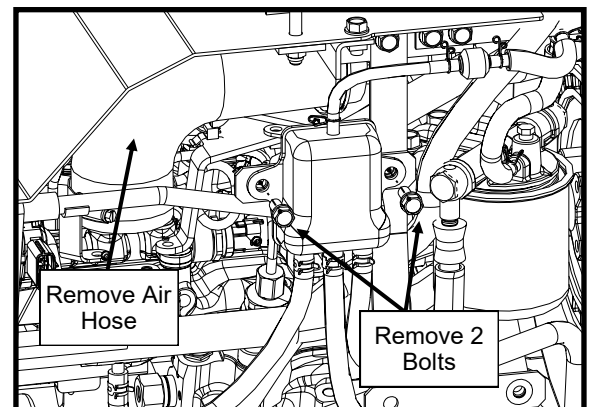

Figure 19.6 Heater Hose Connection
- 19.6 Remove the two bolts holding the black reserve tank and save for reuse as shown in Figure 19.6.
- 19.7 Remove the 90 degree air hose shown in Figure 19.6.